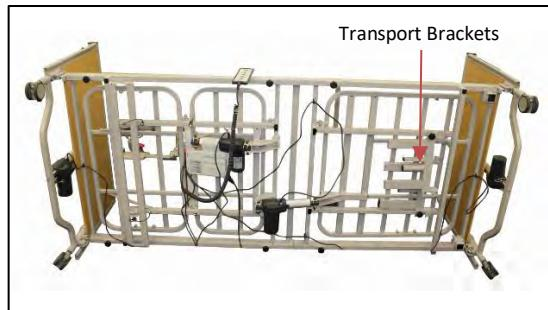

Figure 8: Transport bracket fixing
9. Carefully align the two sections of the bed and slide together (figure 7). Tighten the turn screw to secure, then carefully place the bed onto its side to connect the controller and attach transport brackets (figure 8).
10. The transport brackets can be safely stored under the bed frame to prevent loss of the brackets. This can be done whilst the bed is on its side. The transport brackets can then be attached to the fixing points onto the underside of the bed as indicated (figure 8). Ensure each bracket is locked in place by securing with a turn screw.